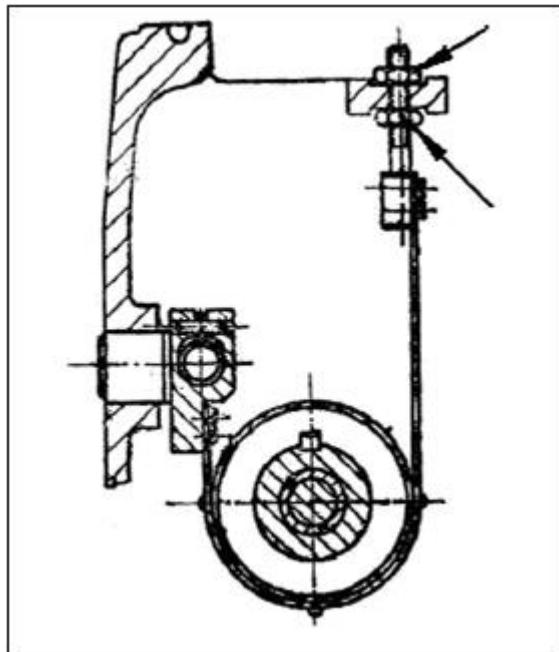

**Fig 16**
- Use a screwdriver and push in the index pin (B, Fig 15 and Fig 16) ...it is spring loaded.
- Rotate the clutch nut (A) to the next index.